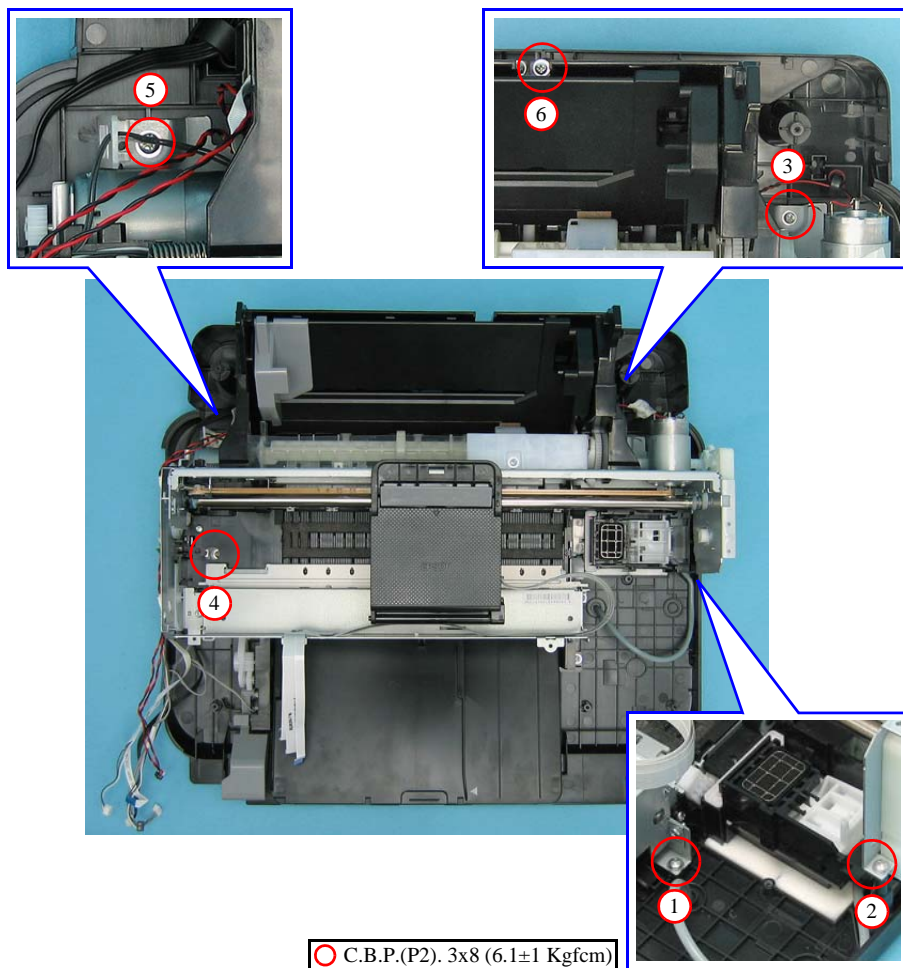

Figure 4-61. Removing the Printer Mechanism (3)
- Tighten the screws in the order given in Fig. 4-61.